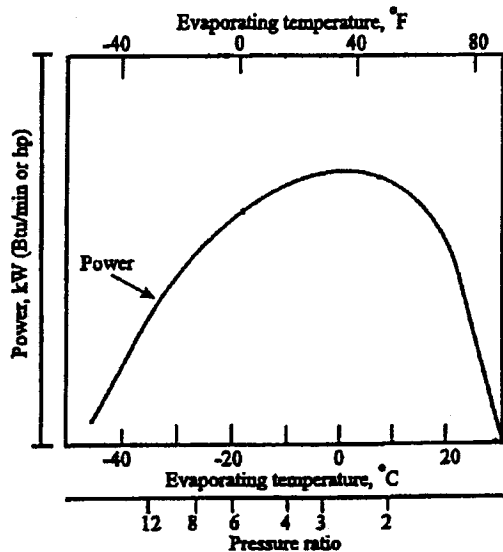

Figure 1 Effect of evaporating temperature on the compressor power requirement
4. (1) Explain the effect of evaporating temperature on the compressor power requirement as shown in Figure 1. (5%)